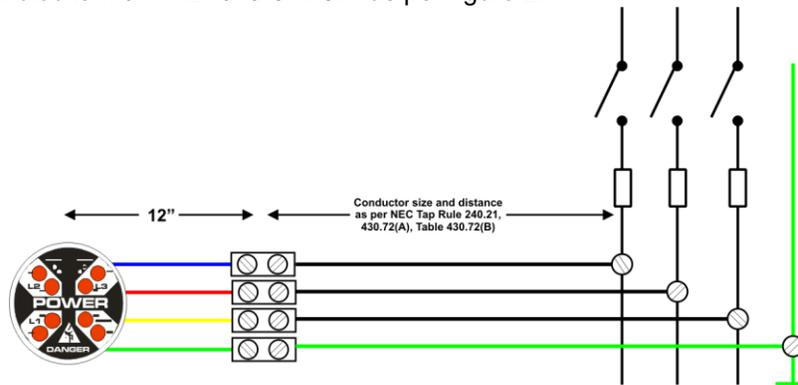

Figure 2
- From the main disconnect, wire to terminal blocks as per the NEC tap rule. Locate the terminal blocks within 12" of the R-3W as per figure 2.